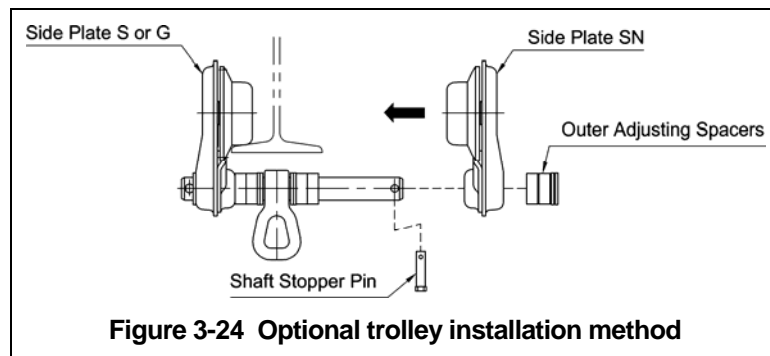

Figure 3-24 Optional trolley installation method
- 1) Remove the Shaft Stopper Pin from Suspension Shaft (See Figure 3-24).